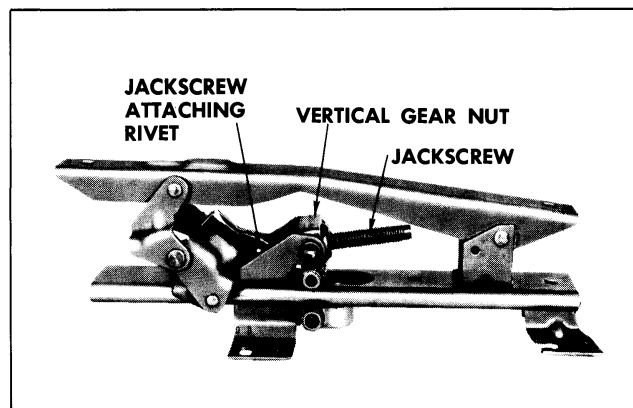

Fig. 17-7 Seat Adjuster
3. As a bench operation, remove jackscrew-to-adjuster linkage attaching rivet and remove jackscrew from adjuster (Fig. 17-7).